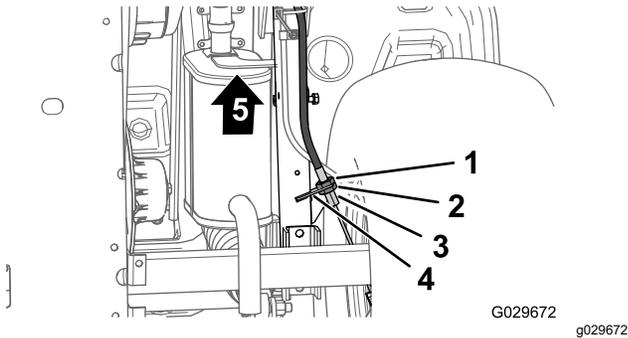

Figure 66
3. At the bottom of the machine, loosen the rear jam nut for the threaded adjuster of the parking-brake cable 4 turns (Figure 66).
4. Tighten the forward jam nut (Figure 66).
- A. Loosen the forward jam nut (Figure 66) for the threaded adjuster of the parking-brake cable 1 turn.
- B. Tighten the rear jam nut (Figure 66).
- A. Loosen the rear jam nut (Figure 66) for the threaded adjuster of the parking-brake cable 1 turn.
- B. Tighten the forward jam nut (Figure 66).